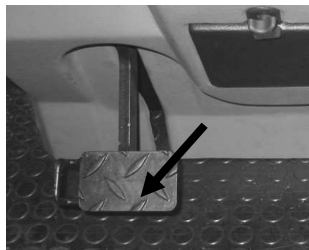

Figure 5-4 Clutch pedal.
- depress clutch pedal fully (Figure 5-4);